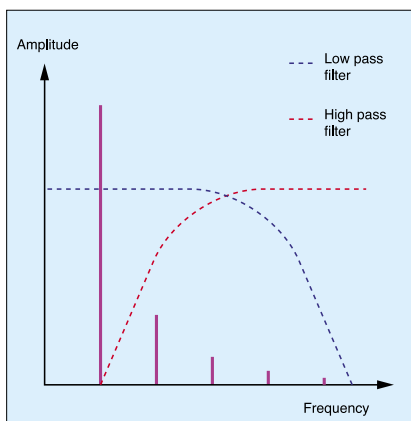
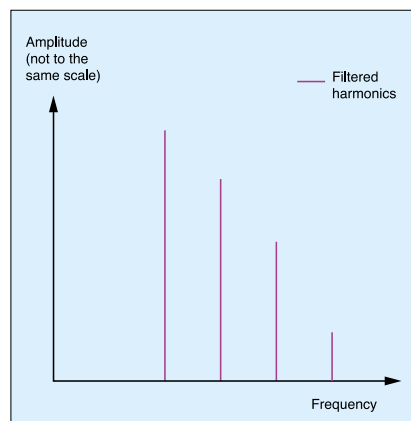

Figure 16: Applying high-pass and low-pass filters to sculpt the harmonic content of the sound.
Figure 17: The output from the filters defined in Figure 16.
► amplitudes of the first three partials are only slightly different. So you can use the MS20's twin filters to sculpt the '1/n' amplitude relationship of the triangle wave (shown in Figure 16) into something far more akin to the desired shape (see Figure 17). Notice in particular how this removes the fundamental of the triangle wave, and ensures that the first four partials have the required 1:1.5:2:2.5 relationship seen in Table 1, rather than 1:2:3:4, as would be the case if the fundamental survived filtering.